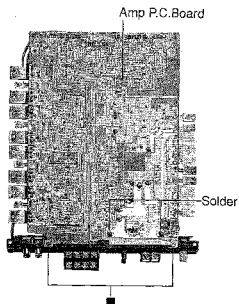

Figure 3
- (2) Remove two screws marked "■" and the solders located two places as shown in Figure 3.